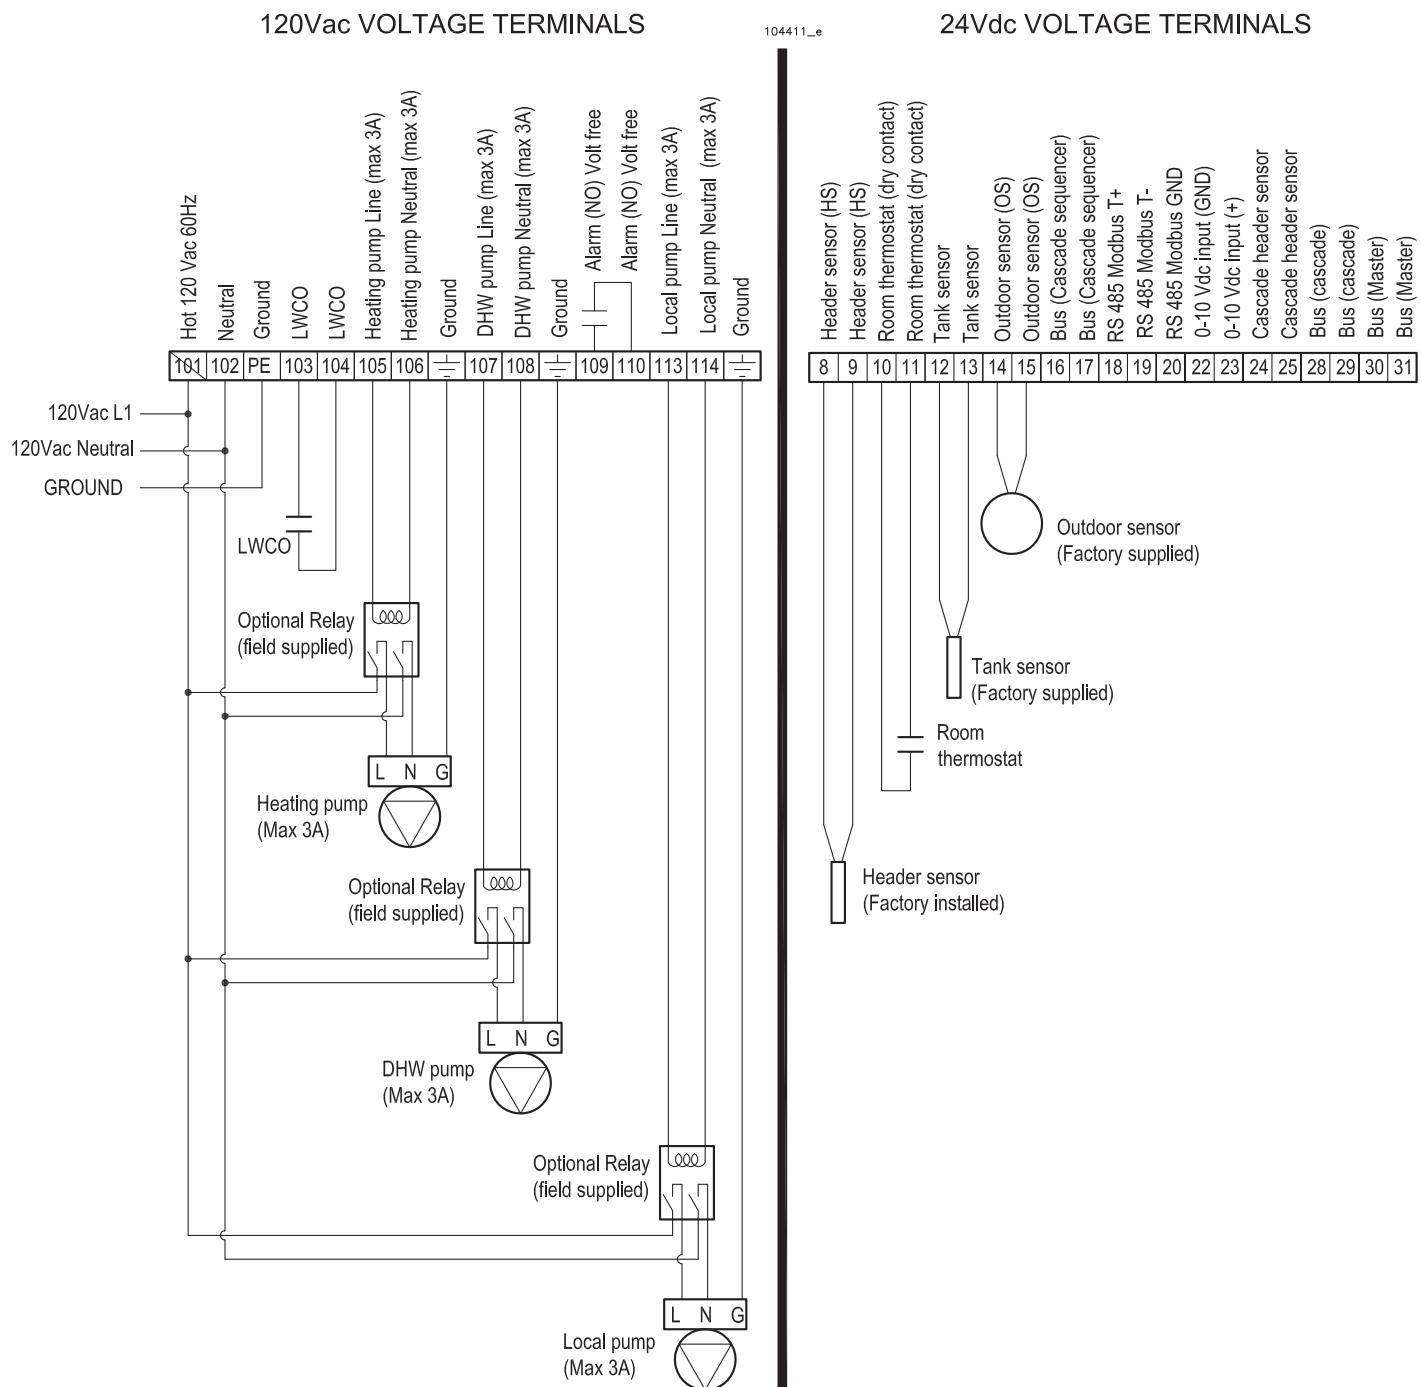

Figure 10-4 Electrical customer connection for AM - B boilers
3. connect the cable leads to the "10" and "11" terminals as shown in Figure 10-4.
or ventilation outlets nor directly under balconies or gutter pipes. Do not shield the outdoor temperature sensor. Do not install the sensor on walls without overhangs, or not protected from rain. Connect the outdoor temperature sensor to the boiler to terminals "14" and "15" (See figure 10-4):
On appliances model 399, 500, 750 and 1000 it is factory supplied the 885IF board that permit installer to drive the unit via a Vcc input (199 model can be equipped on demand). To do this, you have to connect the Vcc supply between terminals 22 and 23 (see Figures 10-4 and 10-5). Also, the CH mode (parameter 2003 as per Section 16.14) must be set to 4 value.
2. The indirect water heater pump (DHW pump) must be connected to terminals "107" and "108" (See Figure 10-4); a field supplied pump relay must be installed if the pump current draw is greater than 3 amps as indicated in Figure 10-4.
3. The indirect water heater temperature sensor (Tank sensor) must be connected to terminals "12" and "13" (See Figure 10-4). The sensor must be placed into the indirect water heater in a way that can detect its water temperature (Follow the indirect water heater instruction).